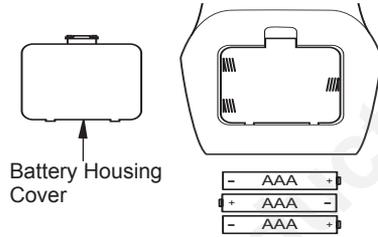

Figure 20 - Battery Install Hand-Held Remote Control
- Remove battery housing cover from back of hand-held remote (see Figure 20).